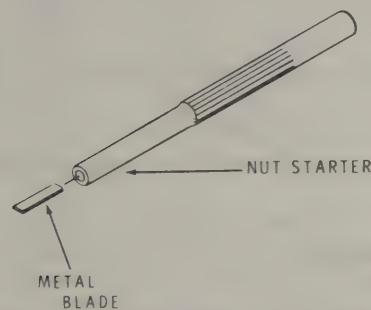

Figure 1
- (✓) Prepare an alignment tool in the following manner: Insert the 1/8" x 3/4" alignment tool blade into the small end of the nut starter as shown in Figure 1. Leave 1/4" of the blade exposed.